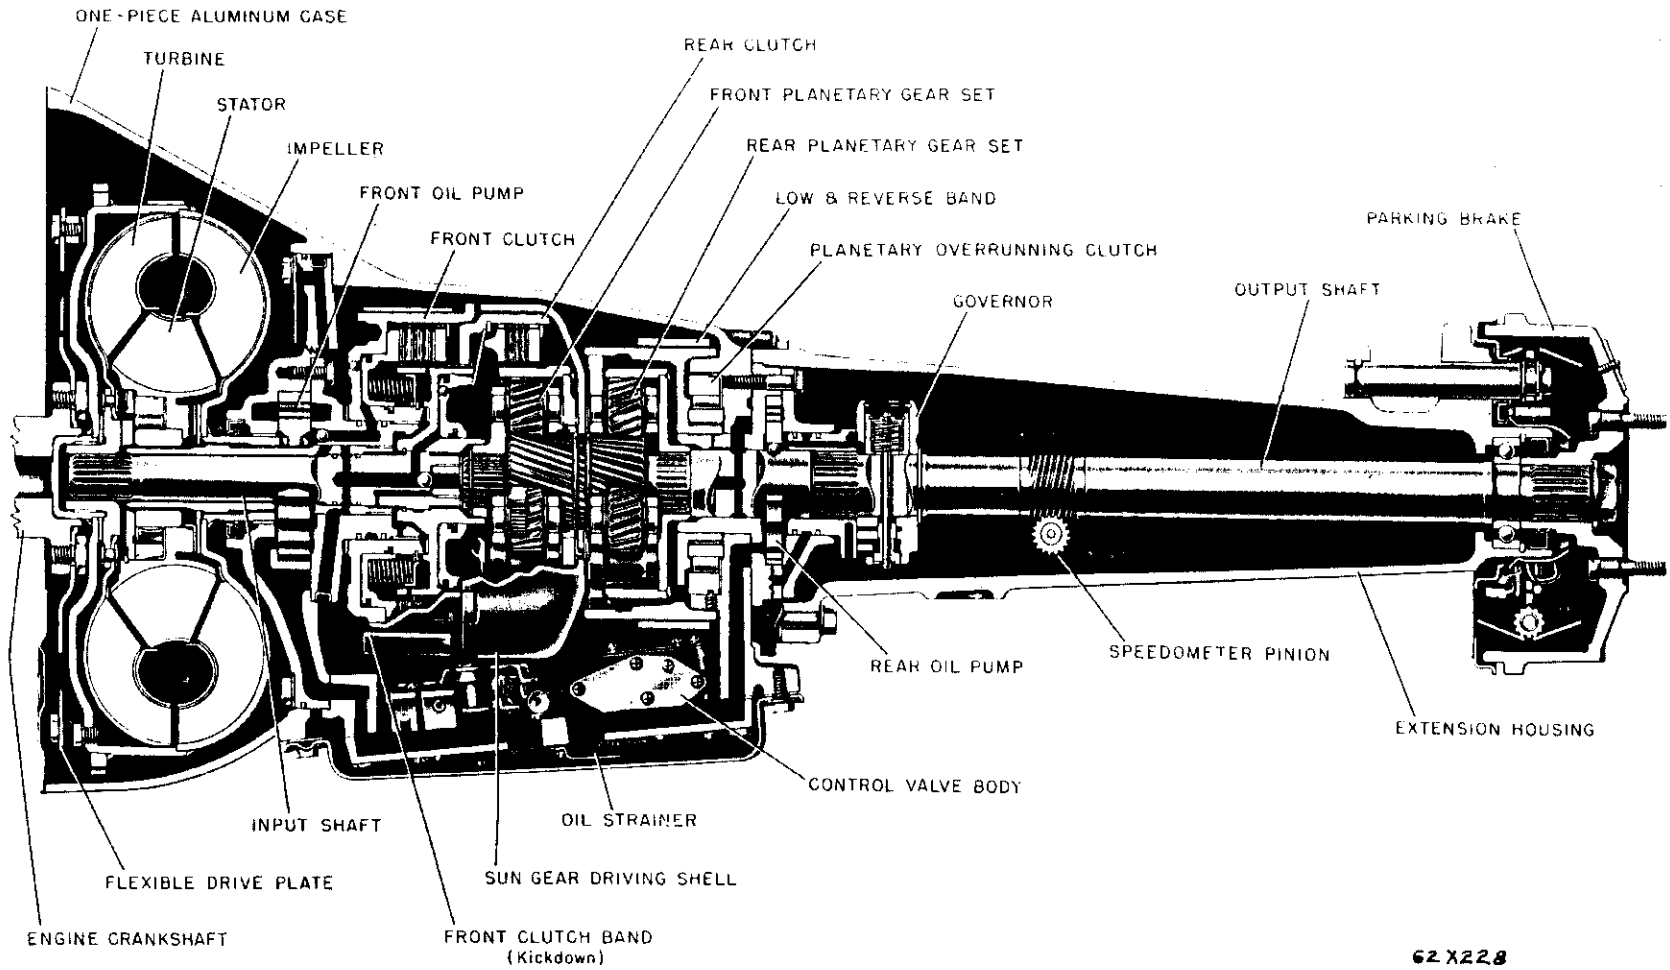

Fig. 1—TorqueFlite Transmission and Torque Converter
2. WITH BOTH GEARSHIFT & BRACKET ASSEMBLY AND LOWER BOOT INSTALLED, CLIP THE CROSSOVER PIN TOOL OVER 2ND-3RD END OF CROSSOVER PIN SO THAT PIN ENGAGES BOTH LEVERS. (SEE FIG. 1.)
The TorqueFlite Transmission combines a torque converter with a fully-automatic 3-speed gear system (Fig. 1). The torque converter housing and transmission case are an integral aluminum casting. The transmission consists of two multiple disc clutches, an overrunning clutch, two servos and bands, and two planetary gear sets to provide three forward ratios and a reverse ratio. The common sun gear of the planetary gear sets is connected to the front clutch by a driving shell which is splined to the sun gear and to the front clutch retainer. The hydraulic system consists of a front and rear pump, and a single valve body which contains all of the valves except the governor valve.